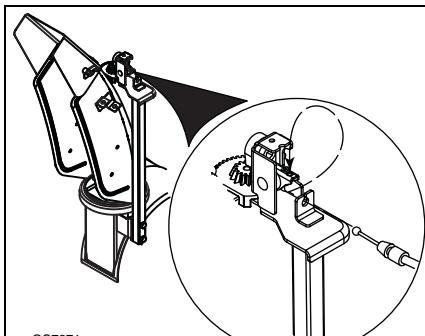

Figure 11
9. Insert the chute lock cable fitting into the bracket on the chute pedestal, and then connect the chute lock cable to the lock teeth by fitting the cable ball end into the slot on the lock teeth. See Figure 11.
NOTE: Press down on lock teeth with your finger to align the cable ball end with the slot (Figure 11).